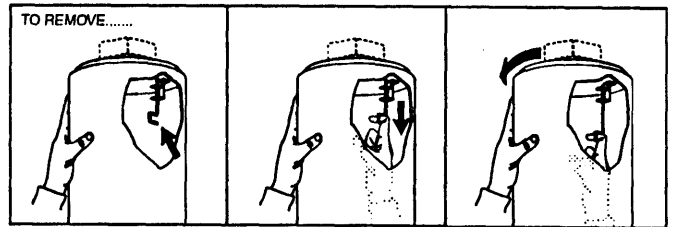

Fig. 5
- If housing needs to be removed, remove reflector and follow steps shown in Fig. 5.